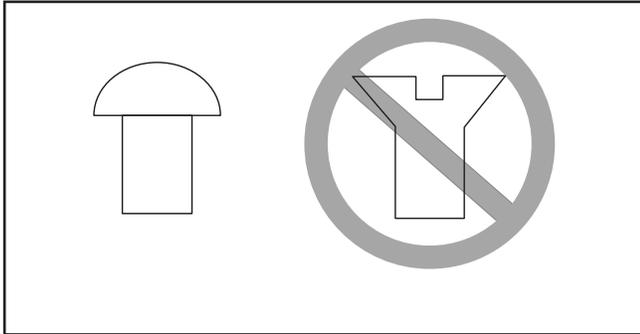

Figure 28. Correct and incorrect screw types for mounting faceplate to workpiece.
- Center the faceplate on the workpiece and attach it through the faceplate holes with non-tapered head wood screws as shown in **Figure 28**.
NOTICE: Only use tap screws or wood screws with non-tapered heads (**Figure 28**) to attach the faceplate to the workpiece. Do NOT use drywall screws or screws with tapered heads because these can split the faceplate, or the screws may snap off during operation.